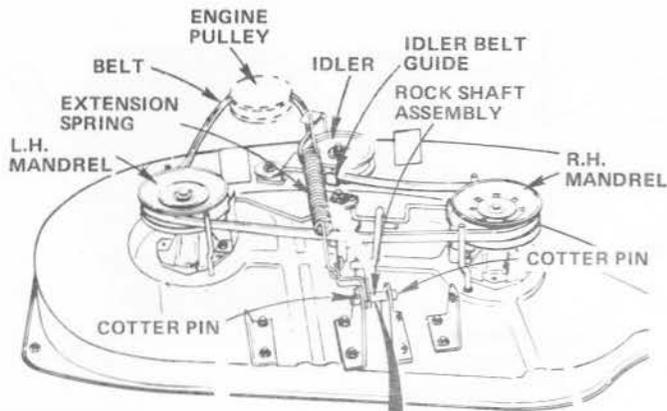

FIGURE 38
2. Remove Cotter Pins from both sides of the Rock Shaft Assembly (Fig. 38).
3. Loosen the 4 Locknuts on the R.H. and L.H. Pivot Brackets (Fig. 38) only until Rock Shaft Assembly can be removed.
5. Remove Extension Spring from lower hole (original position) in Rock Shaft Assembly and insert in upper hole in Rock Shaft Assembly (Fig. 38 - Inset).
3. Roll Belt off Engine Pulley (Fig. 38).
1. Slide Belt under Extension Spring (Fig. 38).